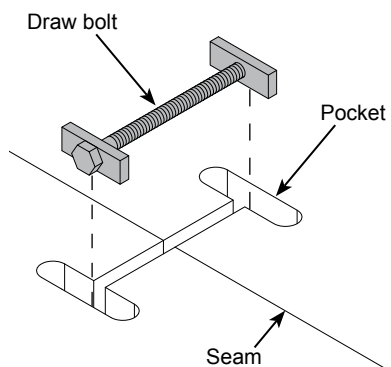

Figure 4C
4. When the two worksurfaces are completely together (tight seam), set a draw bolt into each pocket. **Figure 4C**.